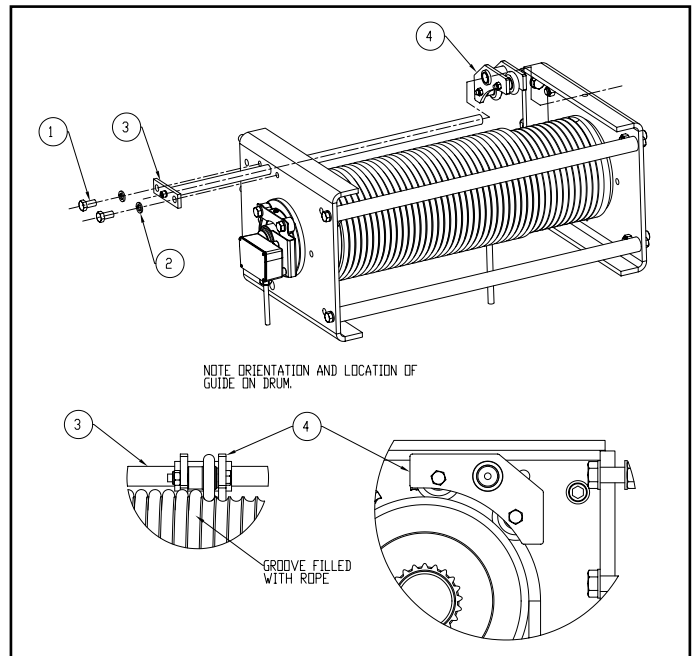

Figure 5-3b. Rope Guide Assembly ("D" Frame)
- (4) Remove the split plastic shroud (Item 2) from the drum. When reassembling the rope guide, be sure the plastic shroud (Item 2) fits snugly in the rope guide body groove.
- (5) Thoroughly clean and inspect all components.
- (6) Follow steps in reverse to reassemble. Be sure to re-grease the rope guide with **MPG** (Paragraph 4-7), after assembling.
- c) **Disassembly for "D" Frame.** Refer to Fig. 5-3b. For further assistance in locating components, refer to the parts list in Section IX.
- (1) Remove hex head cap screws and lock washers (Items 1 and 2). Pull back on drum frame rod assembly (Item 3) until the free end pulls free of the gearcase end drum bracket.
- (2) Slide the rope guide assembly (Item 4) off the end of the drum frame rod and remove from drum groove area. Note the required orientation of the rope guide assembly for re-installation.
- (3) Thoroughly clean and inspect all components.
- (4) Follow steps in reverse to re-install, paying attention to orientation and making sure to seat the assembly into the correct drum groove. Be sure to regrease the rope guide with MPG (Paragraph 4-7), after assembling.